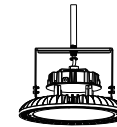

Figure 15
3. Re-cycle and tighten the nut (Figure 8) that unscrewed from the 1/2 " NPT (Figure 15).